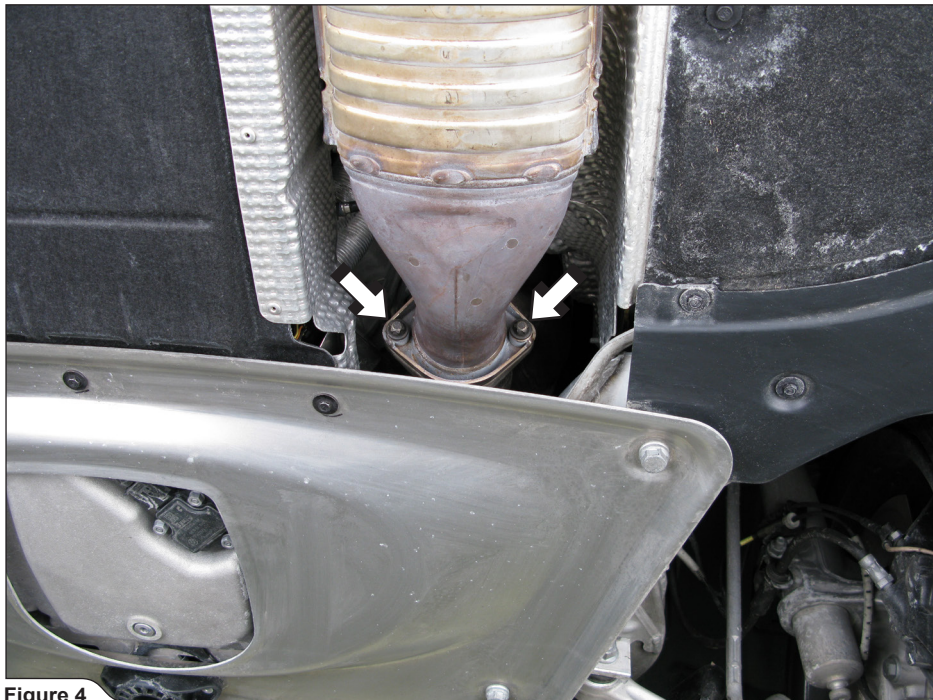

Figure 4
4. Unscrew the marked bolts and nuts on both sides of the vehicle (**Figure 4**).